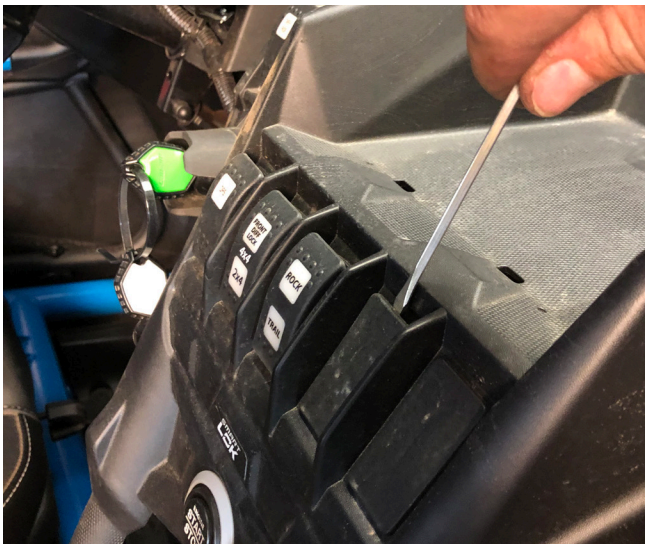

Figure 12a
1. Using a flat-blade screwdriver, remove one of the rocker switch covers from the middle rocker switch panel in the dashboard (Figure 12a).